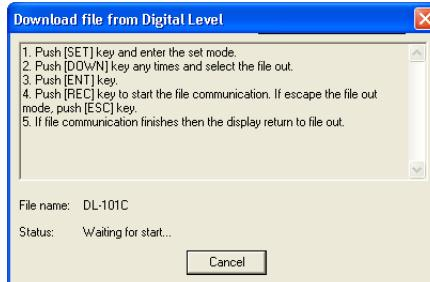

Figure 2-37. Digital Level Instructions – Preparing for Import
8. Follow all the steps in the ***Download File From Digital Level*** dialog box (Figure 2-37) to prepare the Digital Level for importing the file. Select a file in the Digital Level for downloading to the computer.